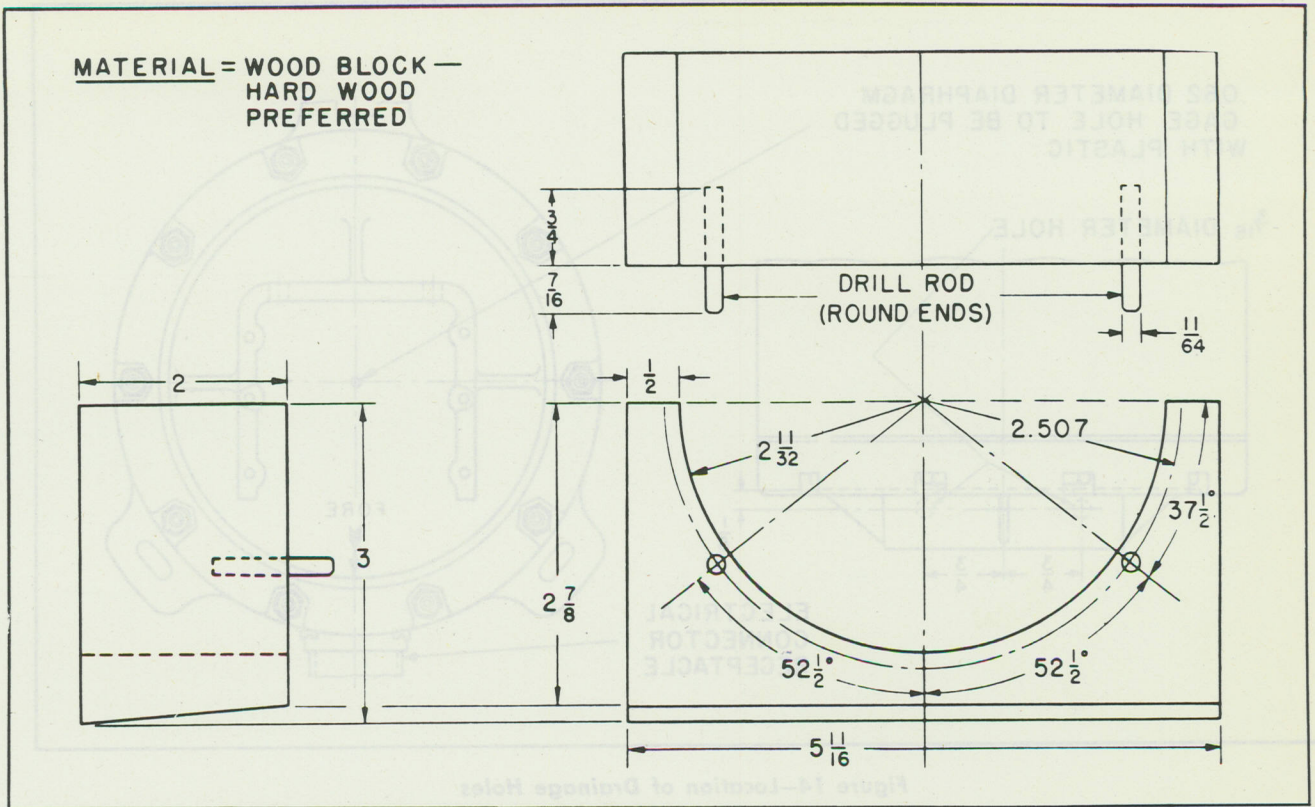
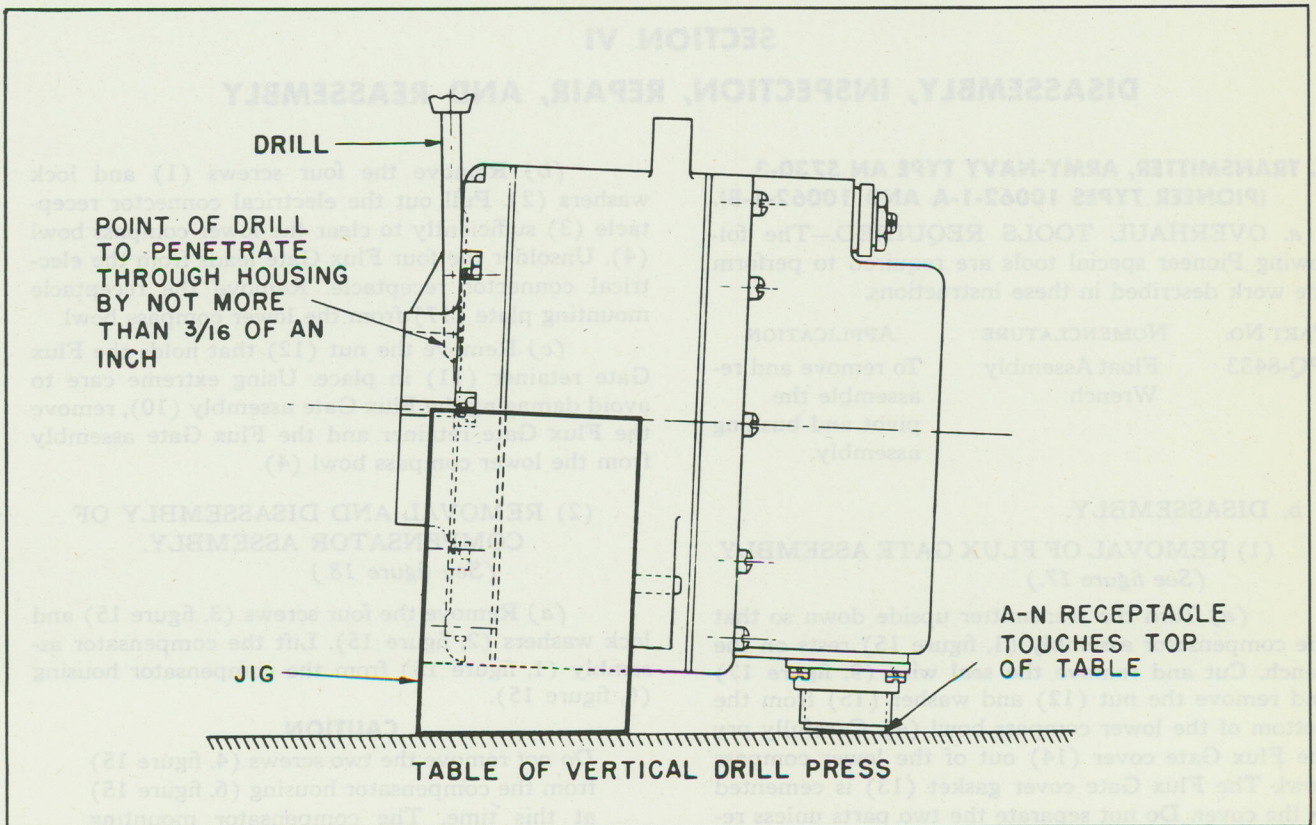

Figure 12—Jig for Drilling Drainage Holes
Figure 13—Position of Transmitter in Jig
c. Construct a wooden jig according to figure 12. Place the transmitter, without the compensator assembly, in the jig (figure 13) so that the "FORE" arrow is pointing directly downward. The dowel pins on the jig will be fully inserted in the transmitter mounting holes. Place the jig, with transmitter, on the horizontal table of a vertical drill press. The edge of the electrical connector receptacle will rest on the table.